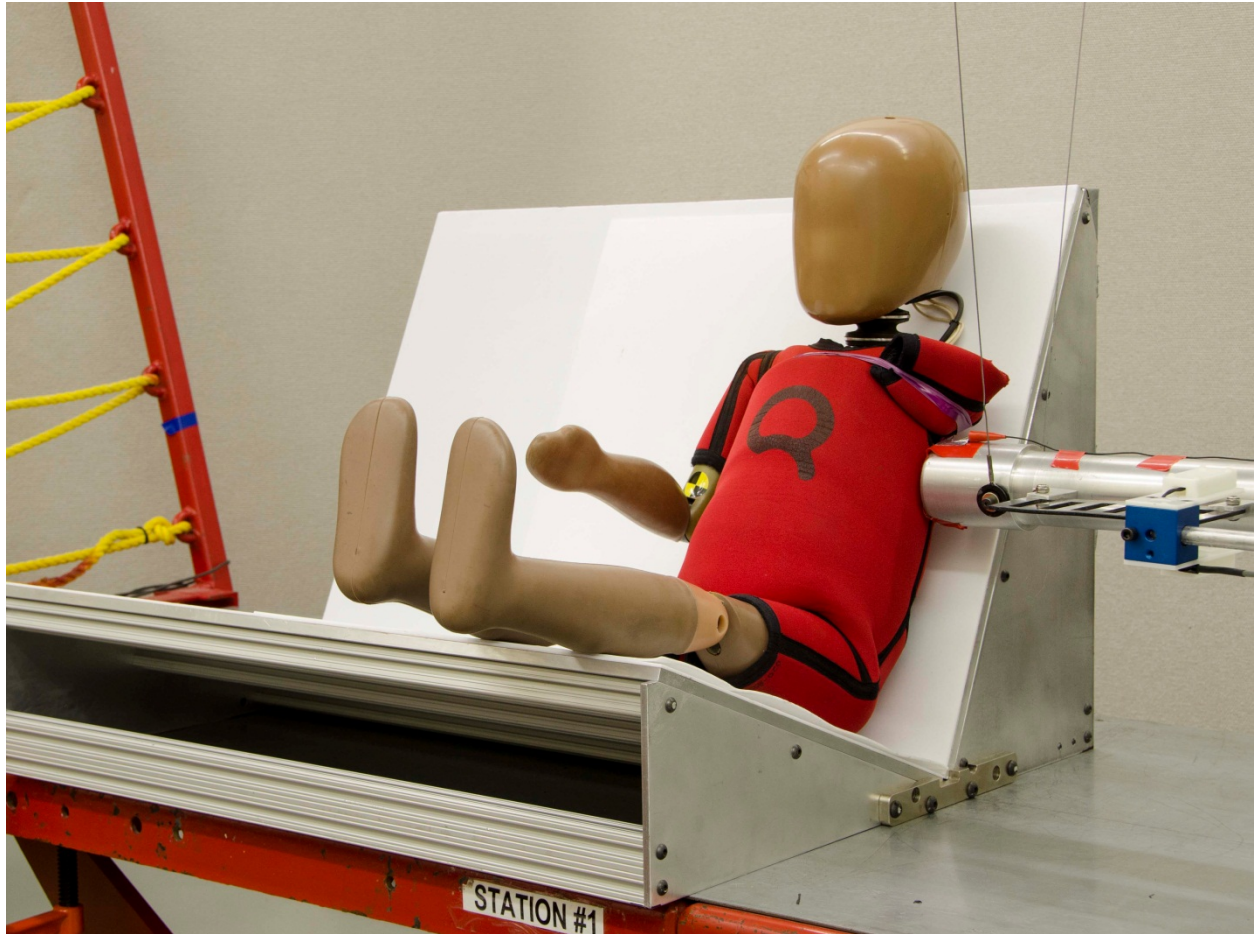

Figure 117. Final setup for thorax without arm qualification test
- Align the laser vertically along the back of the probe, along the top of the centerline of the probe (Figure 117), and along the probe path reference line on the support surface. Leave the laser in this position for the duration of the setup.